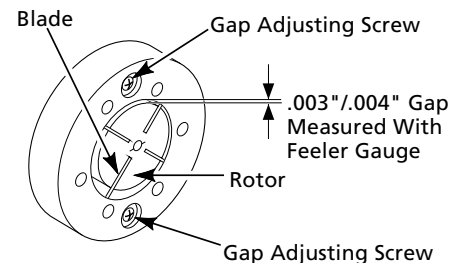

Figure 17 - Gap Adjusting Screw Locations
9. Check gap on rotor. Adjust to .003"/.004" if needed (See Figure 17).